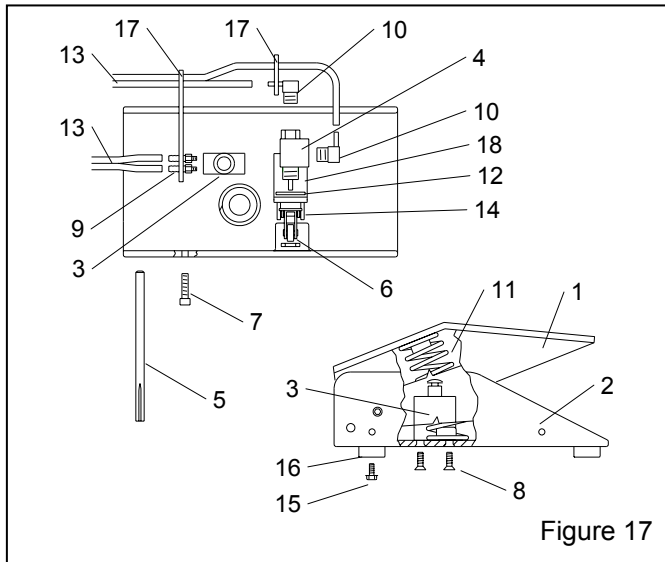

Figure 17
**9.4 Foot Pedal Assembly, Figure 17**